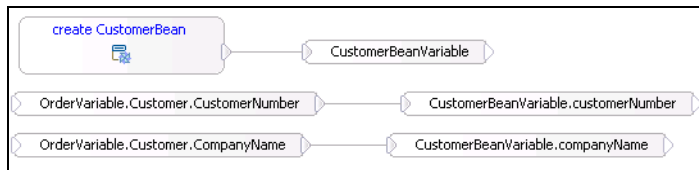

Figure 16-24 Visual Snippet: Completed snippet
- ▶ Drag another `OrderVariable` and `CustomerBeanVariable` on to the canvas and connect `OrderVariable.Customer.CompanyName` to `CustomerBeanVariable.companyName` (Figure 16-24).